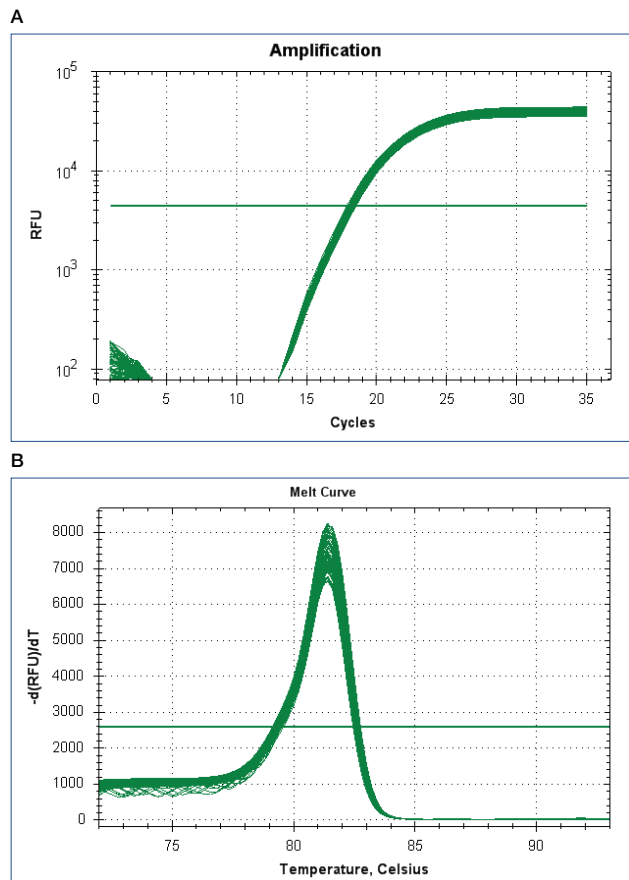

Fig. 5. Melt calibration data. A, amplification plot; B, melt curve plot with a single peak.
14. When the melt calibration run is complete, CFX Maestro Software automatically opens and processes the data file. Check the data file to ensure all wells display a tight amplification curve and a single melt peak (Figure 5).